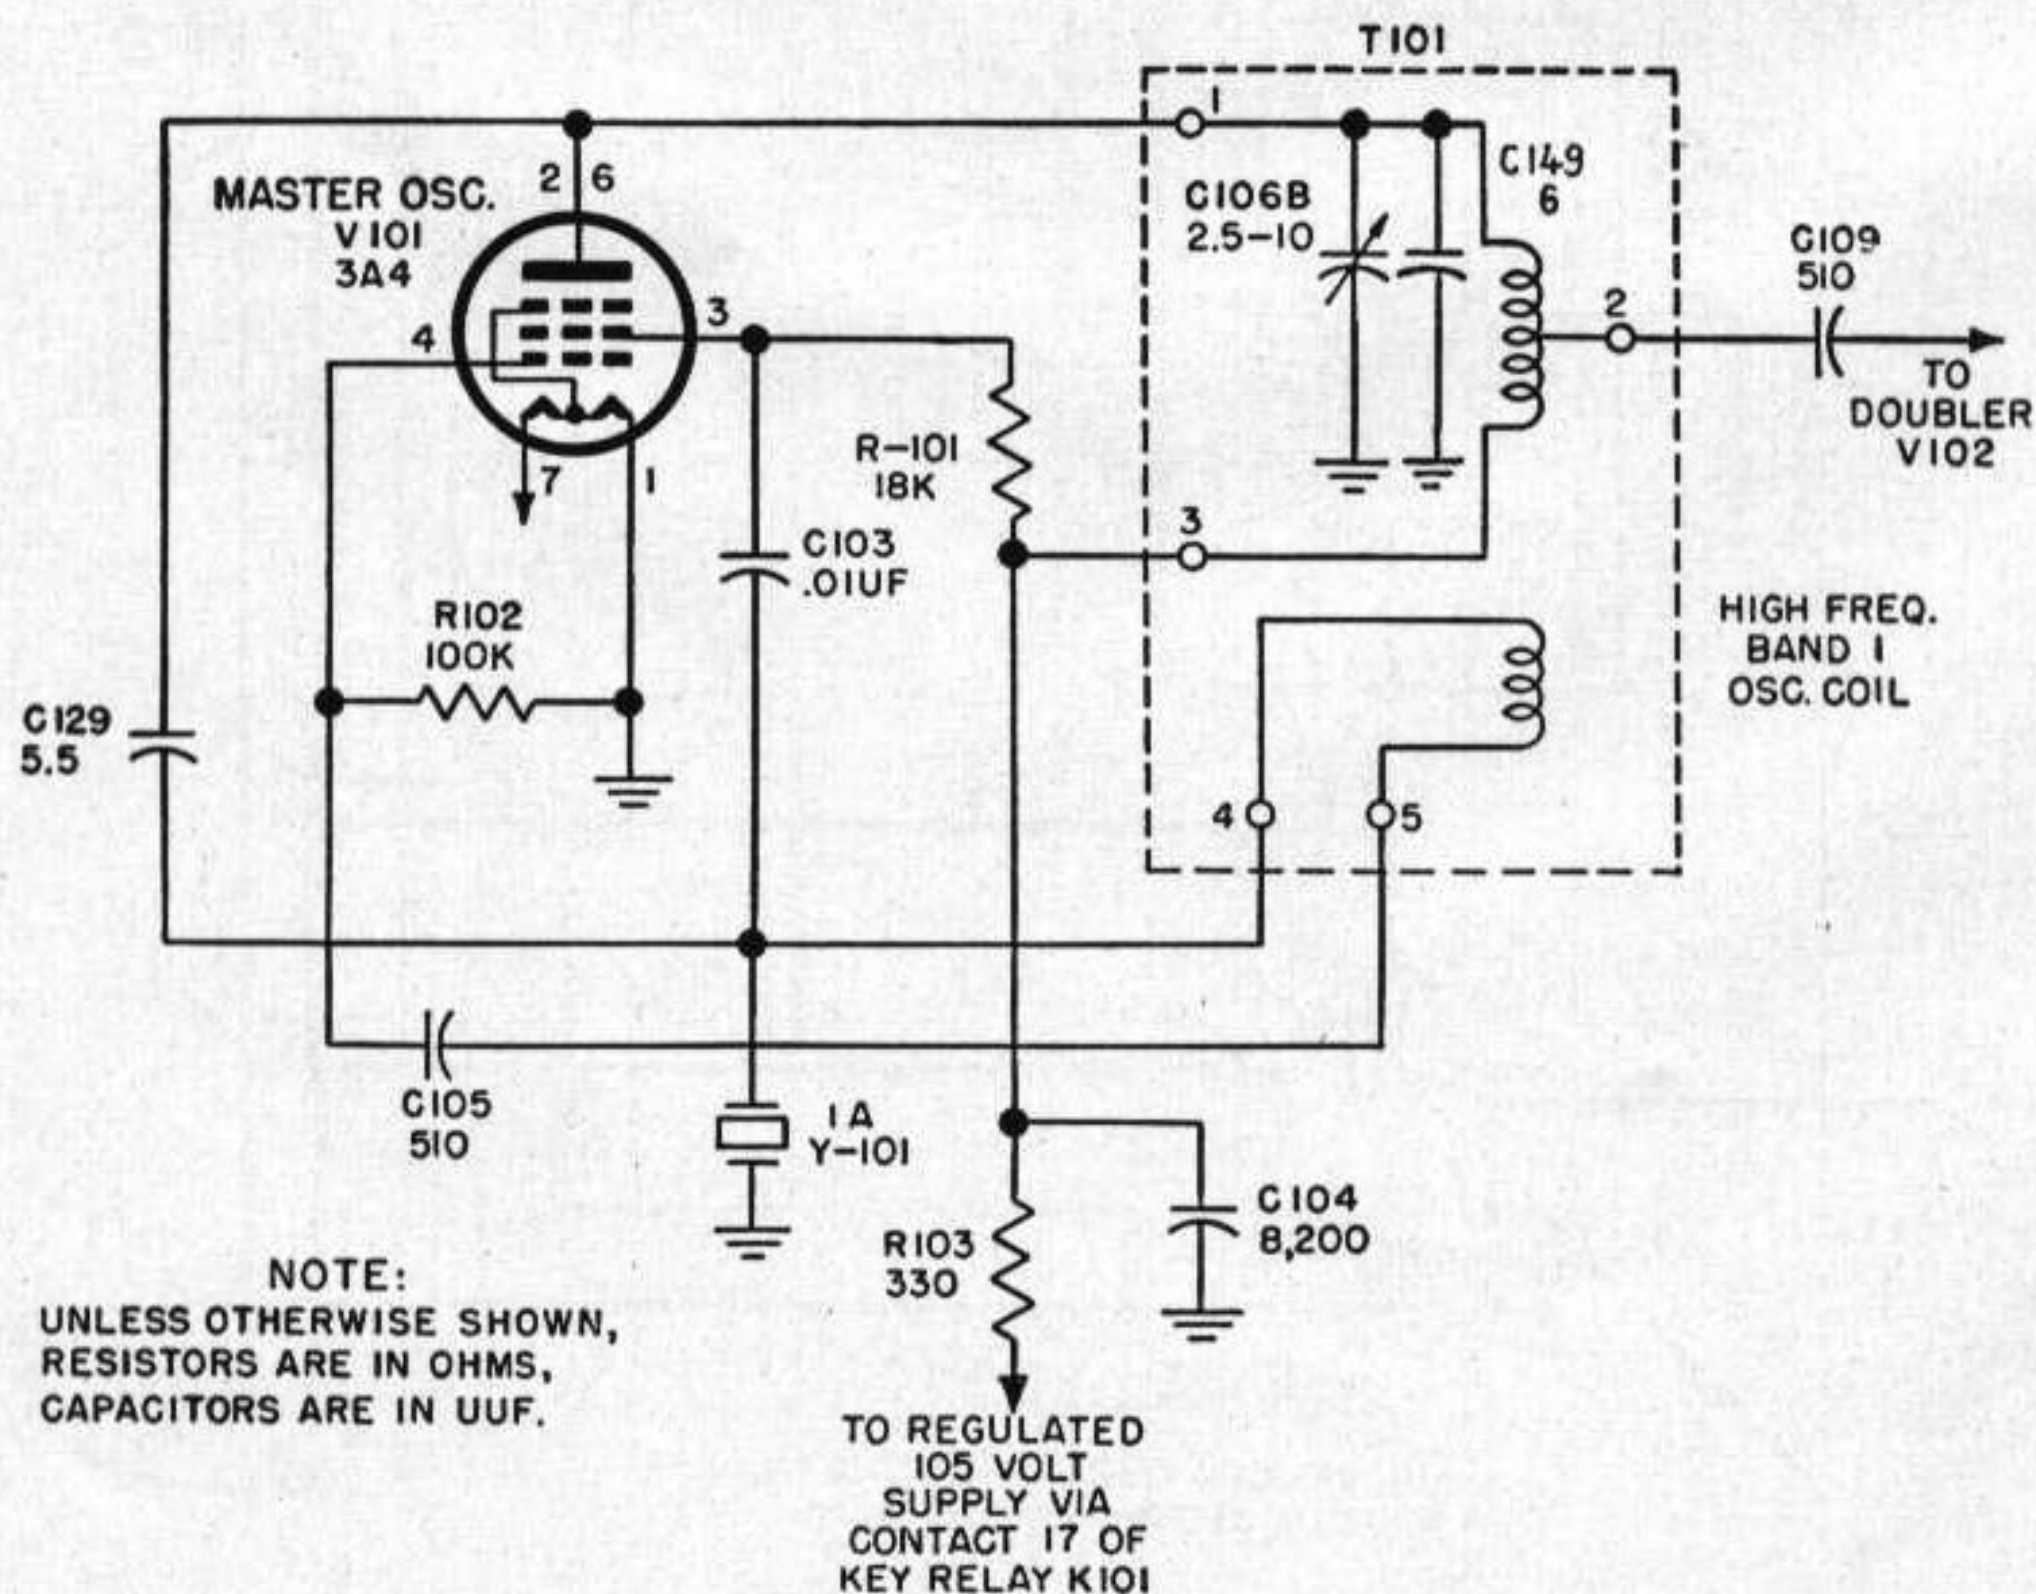

Figure 70. Transmitter master oscillator (crystal-controlled), simplified schematic.
91. Crystal Oscillator (Crystal-controlled) (fig. 70)